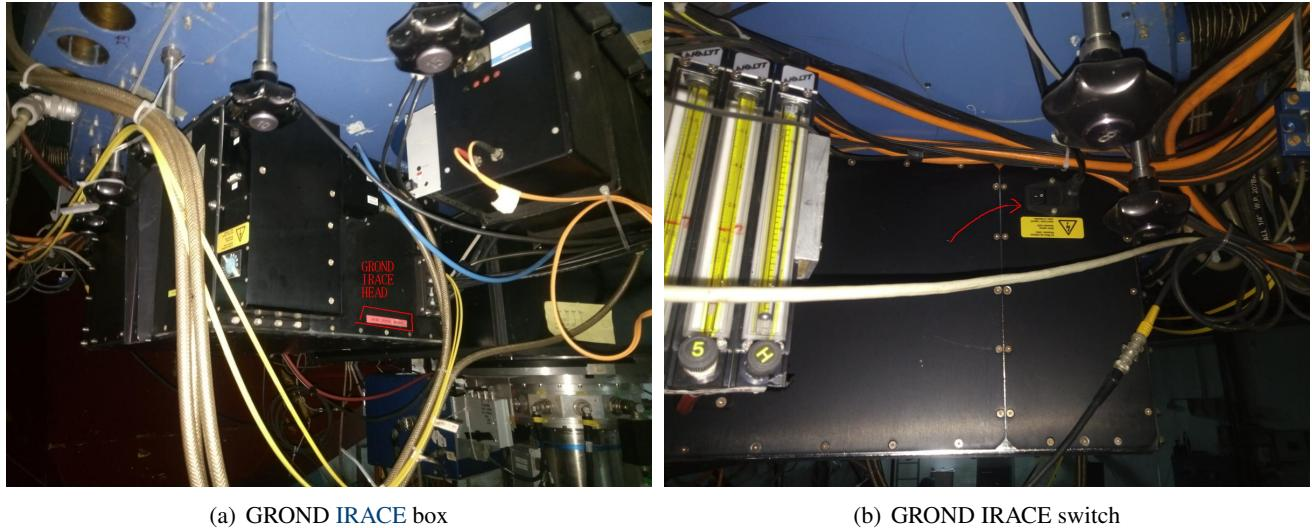

Figure 10.12: The GROND infrared electronics (IRACE) box below the main mirror of the telescope. The power switch is located towards the pier.
- E. Locate the power switch of the IRACE box (Fig. 10.12, p. 85) below the main mirror.